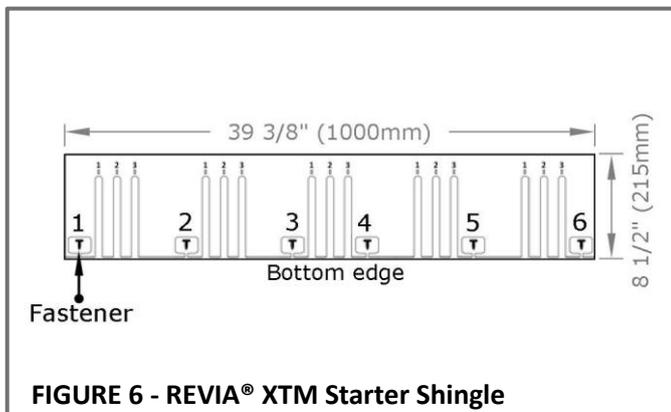

FIGURE 6 - REVIA® XTM Starter Shingle
- Fasteners must be positioned within the boxes indicated on the shingle. See **Figure 6**.